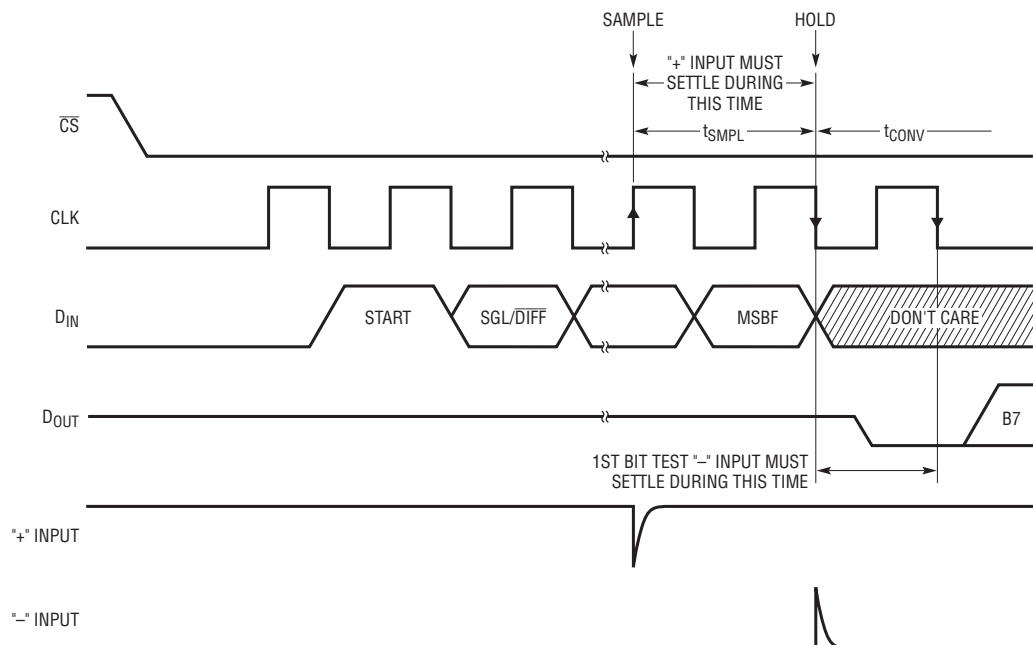

Figure 7. LTC1098(L) “+” and “-” Input Settling Windows
Both the LTC1096(L) and the LTC1098(L) provide a built-in sample-and-hold (S&H) function to acquire signals. The S&H of the LTC1096(L) acquires input signals from “+” input relative to “-” input during the t_{WAKEUP} time (see Figure 1). However, the S&H of the LTC1098(L) can sample input signals in the single-ended mode or in the differential inputs during the t_{SMPL} time (see Figure 7).
The sample-and-hold of the LTC1098(L) allows conversion of rapidly varying signals. The input voltage is sampled during the t_{SMPL} time as shown in Figure 7. The sampling interval begins as the bit preceding the MSBF bit is shifted
The input capacitor of the LTC1096(L) is switched onto “+” input during the wake-up time (see Figure 1) and samples the input signal within that time. However, the input capacitor of the LTC1098(L) is switched onto “+” input during the sample phase (t_{SMPL} , see Figure 7). The sample phase is 1.5 CLK cycles before conversion starts. The voltage on the “+” input must settle completely within
When driving the analog inputs with an op amp it is important that the op amp settle within the allowed time (see Figure 7). Again, the “+” and “–” input sampling times can be extended as described above to accommodate slower op amps. Most op amps, including the LT1006 and LT1413 single supply op amps, can be made to settle well even with the minimum settling windows of 3μs (“+” input) which occur at the maximum clock rate of 500kHz.